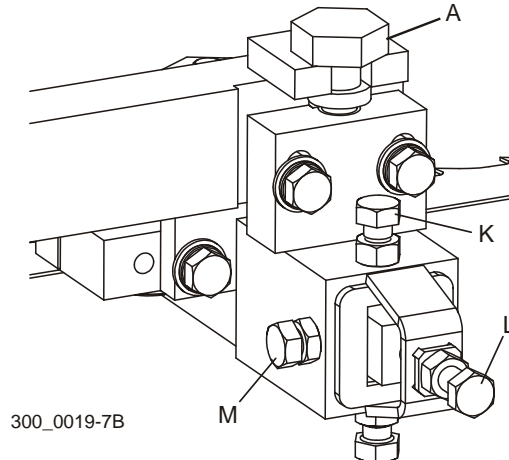

FIG. 5-17
See Figure 5-17. To adjust, loosen one bolt (K) and bolt (M). Slide the blade guide assembly in or out as necessary. Loosen the jam nut on bolt (L) and adjust the bolt until it